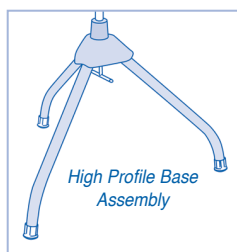

Figure 7
- Install the three legs with the curved part closer to the ground (Figure 7.) Use this position for softball drop pitches.